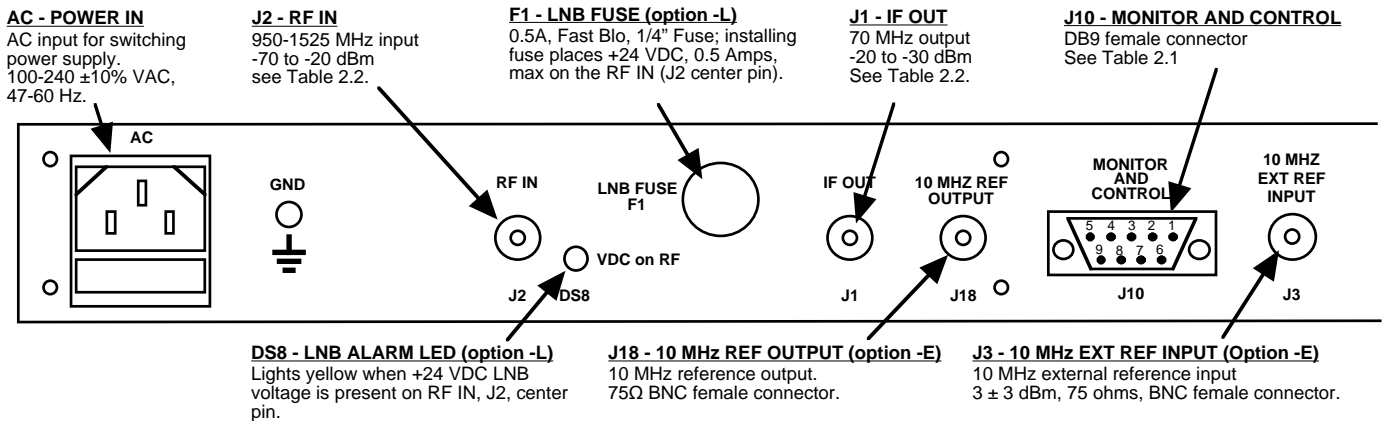

FIGURE 2.2 2016-03A Rear Panel I/Os
2.2 Rear Panel Input/Output Signals - Figure 2.2 shows the input and output connectors on the rear panel.
1. Connect a -20 dBm to -70 dBm signal to RF IN, J2 (Figure 2.2)